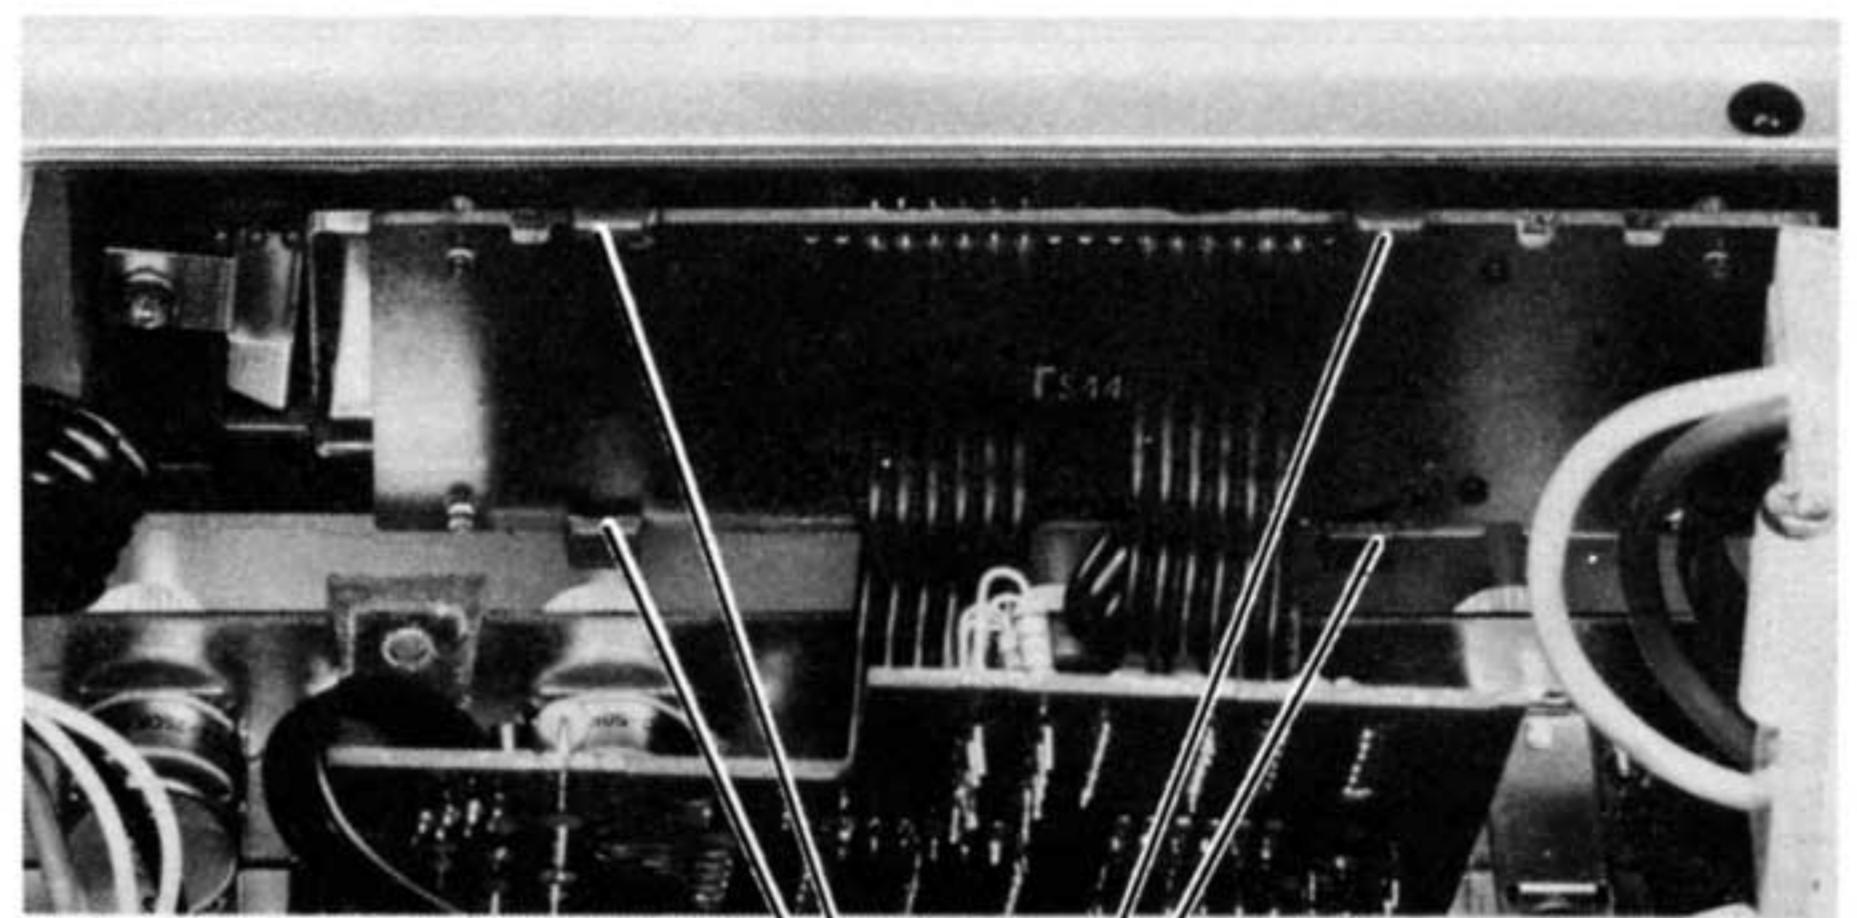

Figure 10
6. Loosen the four nail **(I)** holding the LEVEL Meter P.C. Board, then the front chassis can be removed from the unit. See Figure 10.